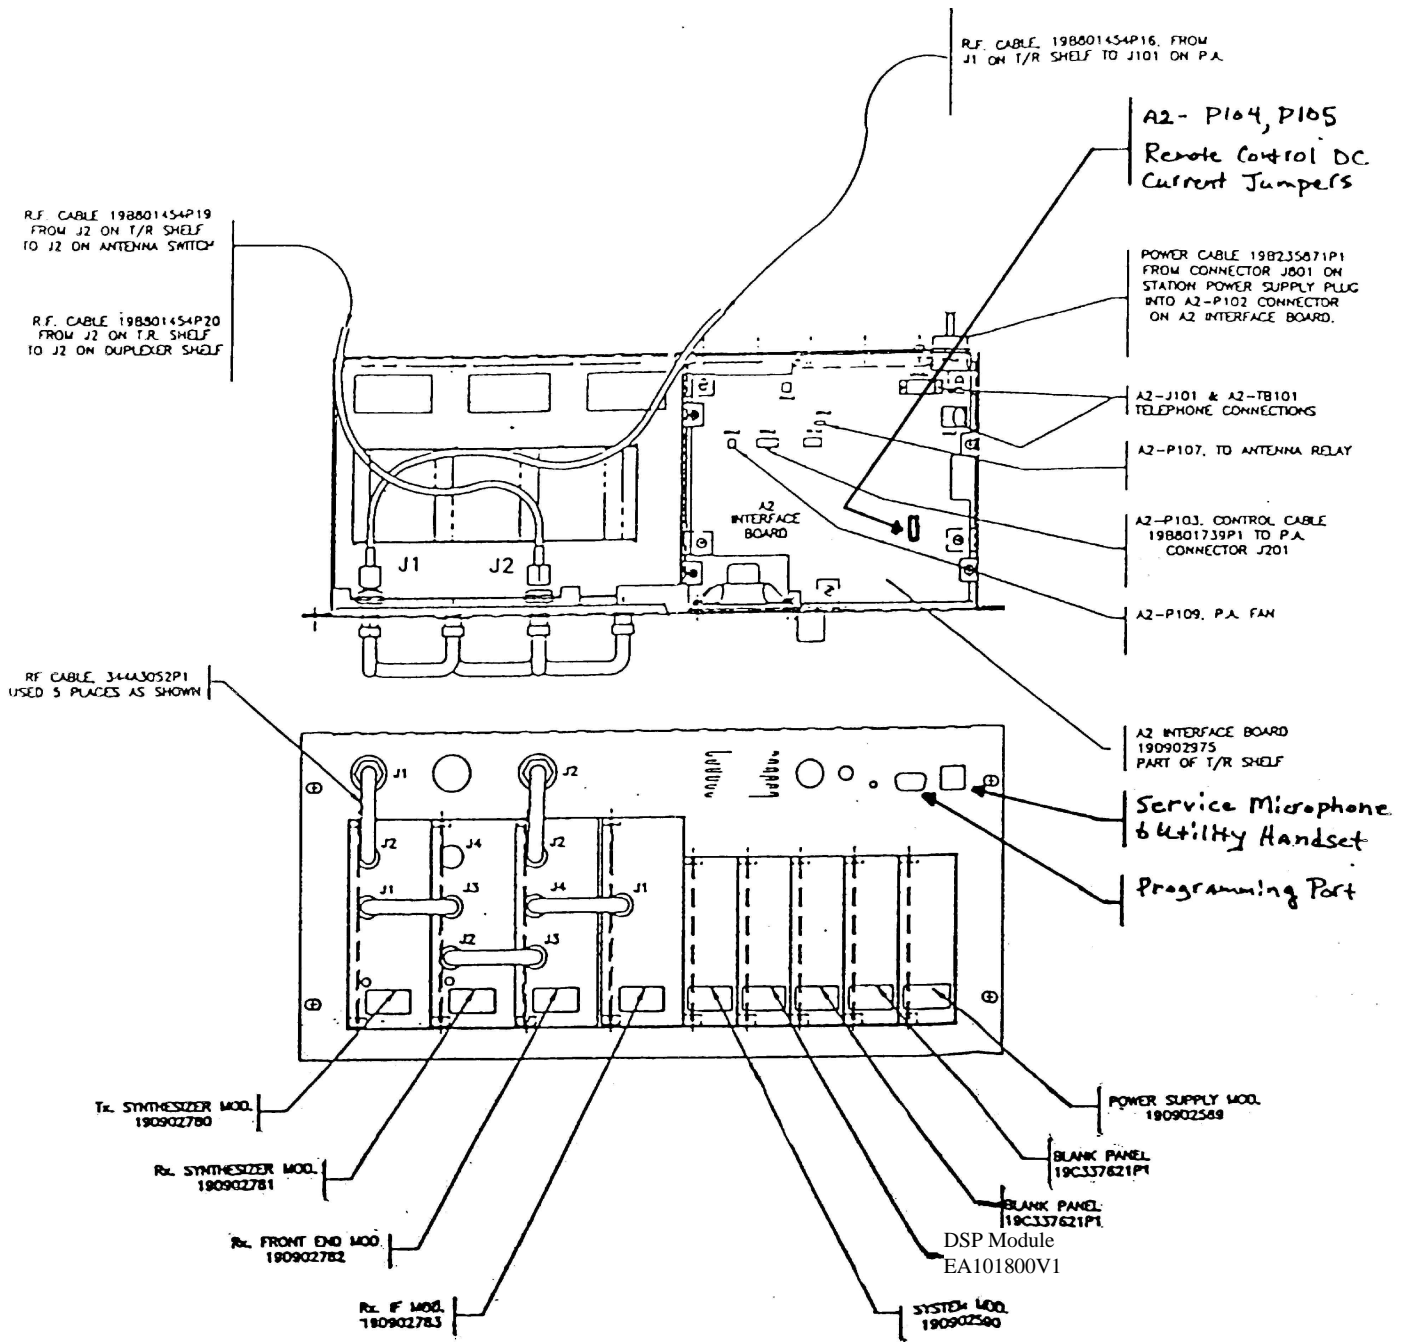

Figure 1 - Base Station Test Setup
- After the tested modules have been placed in the MASTR III station, make connections to the unit per Figure 1. This procedure assumes the receiver and transmitter modules have been previously tuned and aligned to customer requirements.